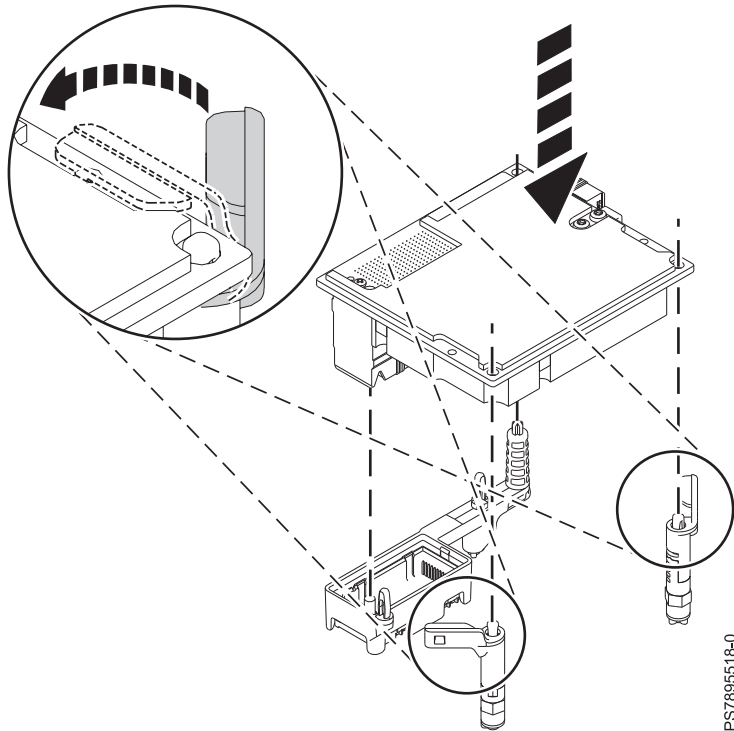

Figure 24. Installing an I/O expansion adapter on its connector
- a. Make sure that the slot's two blue release tabs are in the open position, as indicated in Figure 24 on page 55.